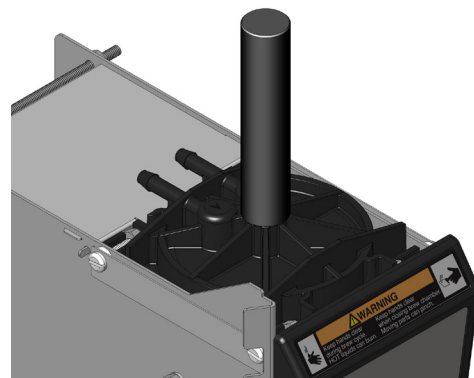
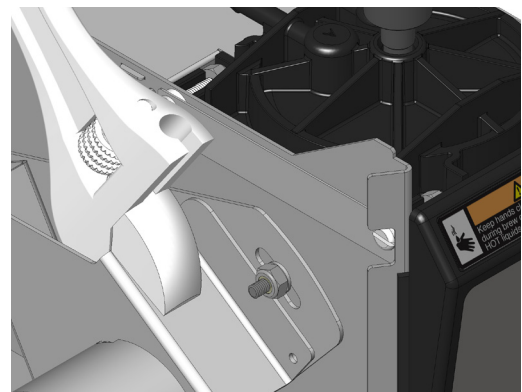

FIG 22-4 Insert alignment tool.
FIG 22-5 Rotate motor assembly.
11. Insert alignment tool. FIG 22-4. Rotate motor assembly (FIG 22-5) with adjustable wrench until alignment tool slips into puck. Tighten nuts.